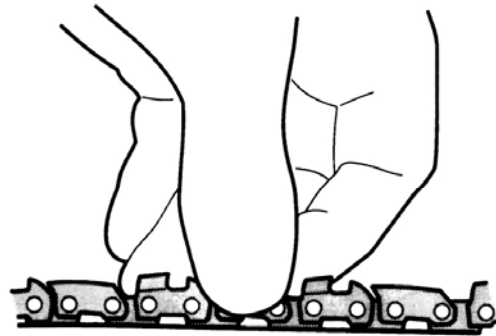

Figure 12
4. Pull the chain by hand along the top of the guide bar several times from the engine to the bar's tip. The chain should feel snug but still pull freely. See Figure 12.